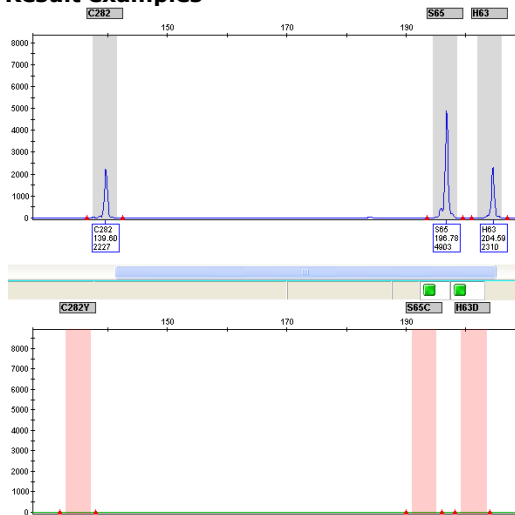

Figure 1. Homozygous wildtype.
**Homozygous wild type:** A sample is considered a homozygous wild type for a specific codon when the wild type signal in the BLUE channel is within the acceptable length and fluorecence criteria ranges and no GREEN signal higher than 150 rfu for the same codon is detected in the sample. See Figure 1 for example.